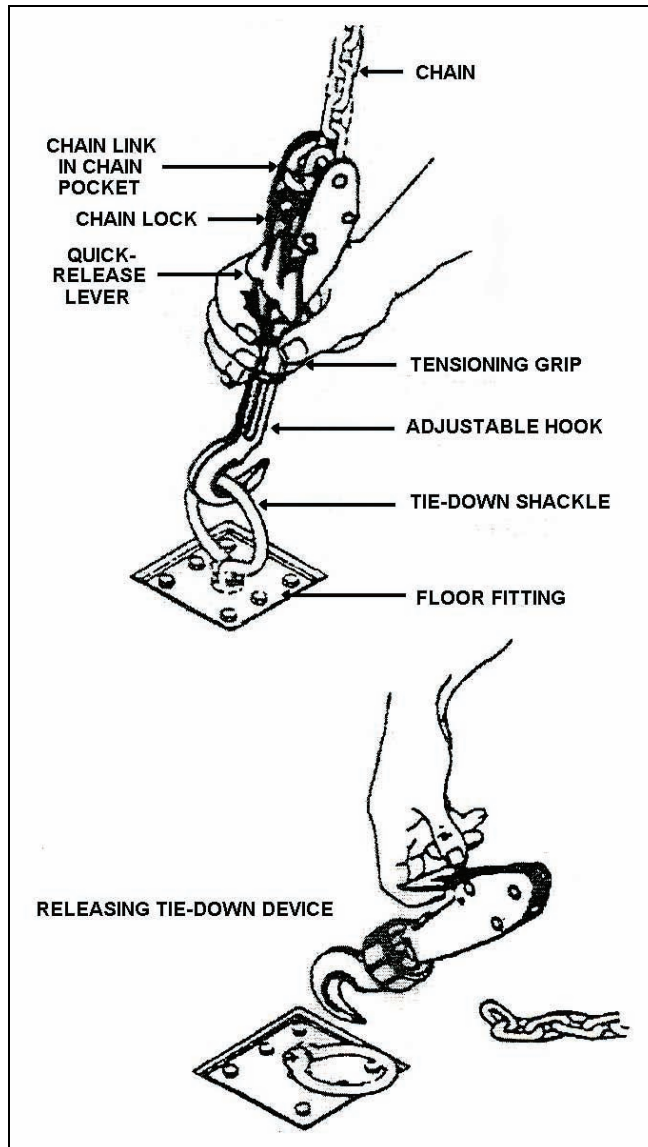

Figure 3-94. Attachment of Hook End of Tie-down Device to Aircraft Floor With Hook End Pointed Up
- d. Direct the attachment of the hook end of the tie-down device to the aircraft floor with the hook end pointed up (see Figure 3-94).